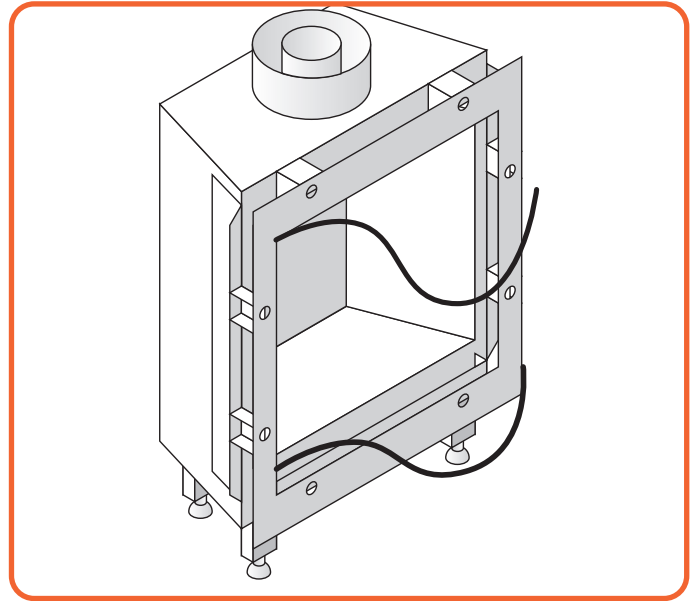

Figure 9.4 | Remove glass rope
- Remove both the side trims and bottom trim. They are held by magnet snappers, Figure 9.4